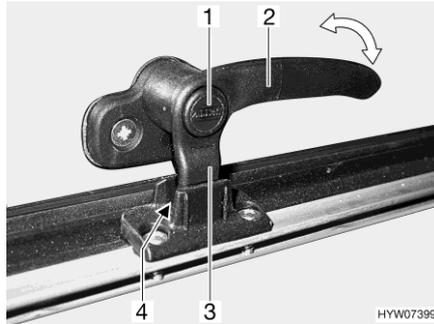
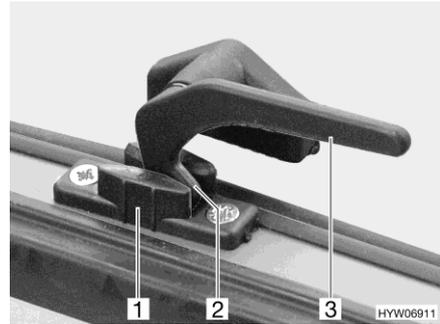

Fig. 96 Catch lever with safety knob in "continuous ventilation" position
Fig. 97 Catch lever in "continuous ventilation" position
- "Continuous ventilation" (Fig. 96 and Fig. 97)
- Press and hold the security button (Fig. 96,1), if present.
- Turn all catch levers (Fig. 96,2 or Fig. 97,3) a quarter turn towards the centre of the skylight.
- Return all catch levers to their initial position. The locking catch (Fig. 96,3 or Fig. 97,2) has to be moved into the recess of the skylight lock (Fig. 96,4 or Fig. 97,1).